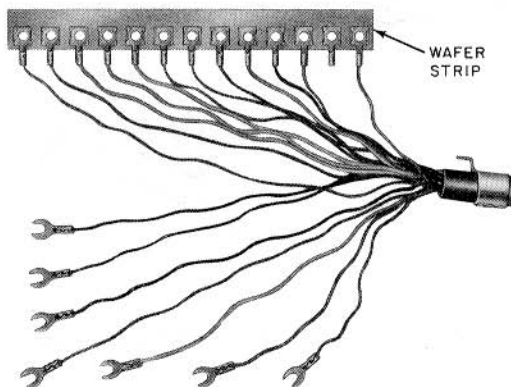

Fig. 9—Nonslotted Wafer Strip End of Mounting Cord, Early Type
2.17 The set ends of mounting cord conductors are furnished with individual spade tips or wafers for terminating on 588-, 589-, or 636-type keys (Fig. 9, 10, and 11).
3.06 Replace mounting cords of early manufacture (Fig. 9) as follows: